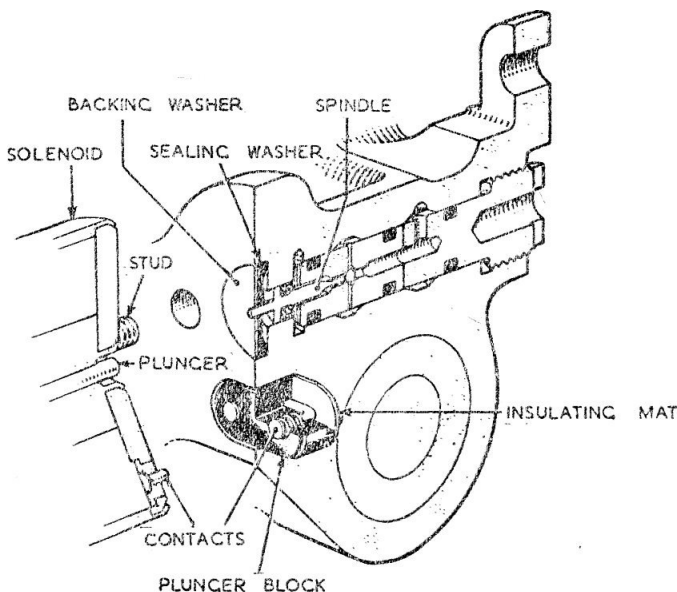

Fig. 2. Sectional view showing method of attachment
8. Sleeve nuts pass through the body of the unit on which the solenoid is mounted and engage with the attachment studs. The contact pins mate with contacts in plunger blocks (fig. 2) on the valve body, and these contacts are electrically connected with a plug also mounted on the valve body.